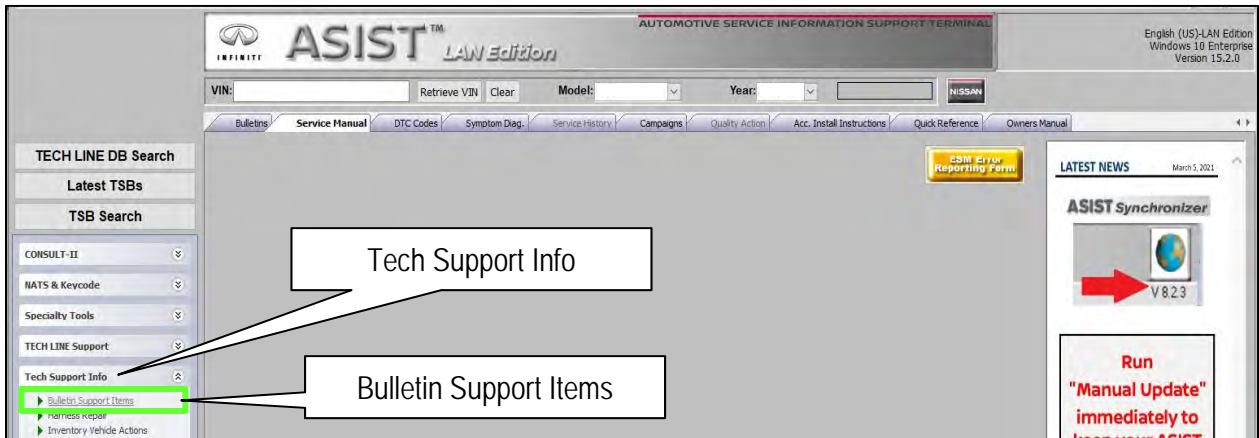
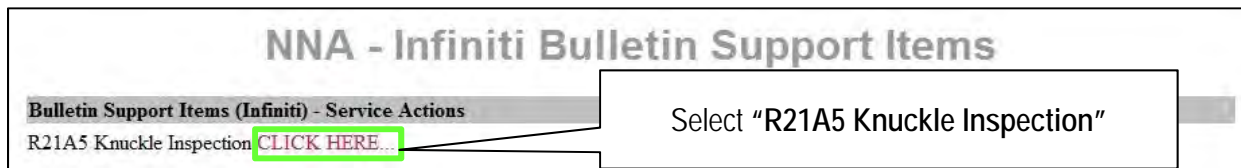

Figure 87
Figure 88
55. Open the ASIST form found at **ASIST > Tech Support Info > Bulletin Support Items > R21A5 Knuckle Inspection** (see Figure 87 and Figure 88).